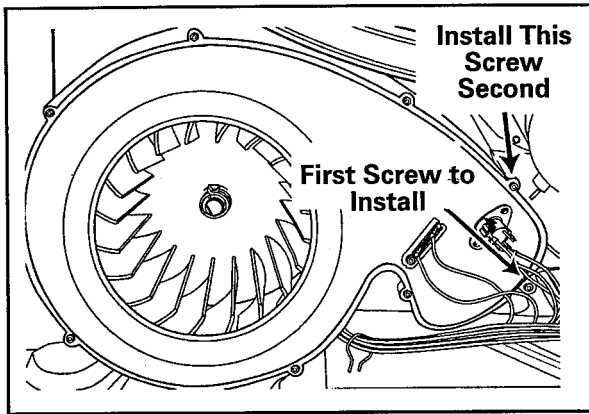

Figure 7-4
3. Install the first screw closest to the exhaust duct (right most screw). **(See Figure 7-4)**